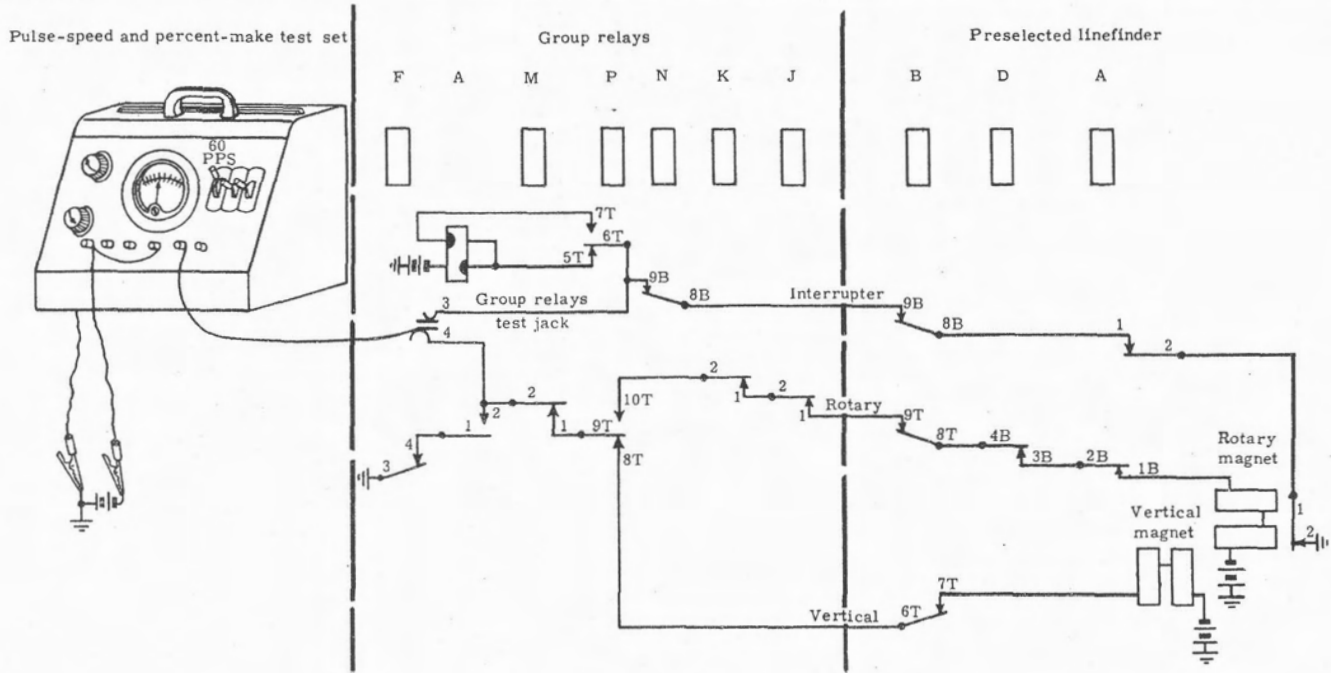

Figure 38. Stepping-speed and pulse-ratio test.
**6.56 Speed and ratio test (figure 38).** Plug a suitable speed and ratio meter into group-relays test-jack spring 4 to check the preselected linefinder's stepping. Connect together the FINDER TEST or TEST LINE test jacks to operate the preselected linefinder. The same ground that operates the vertical and rotary magnets (from relay F contact 3) closes a circuit for the speed and ratio meter. Thus, the meter indicates the speed and the percent-make ratio of pulses to the vertical and rotary magnets.